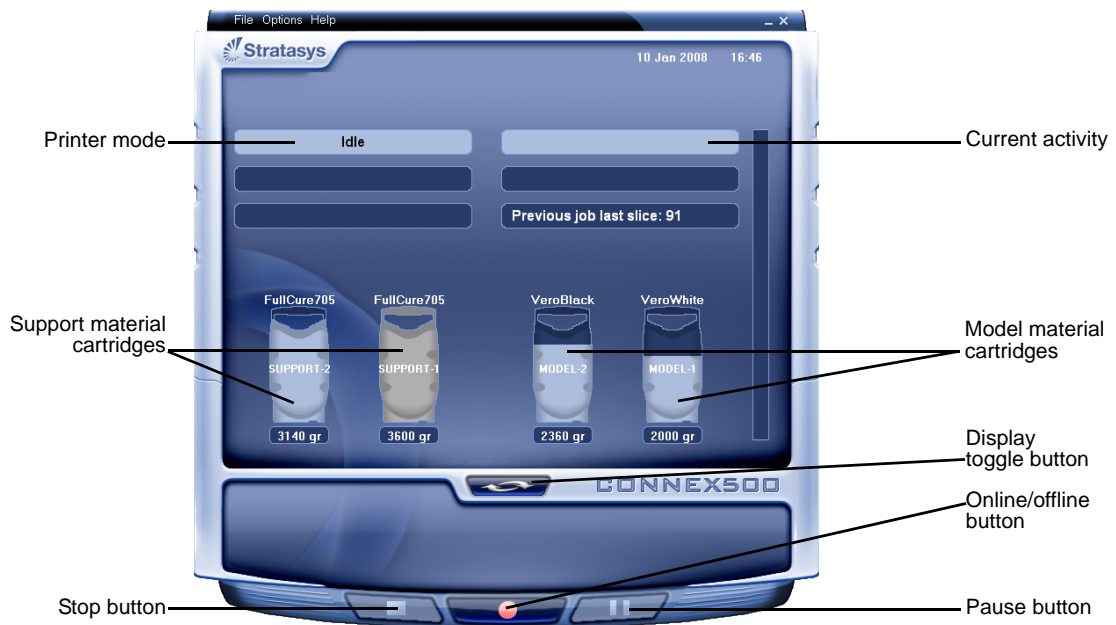

Figure 6-3: Connex500 interface
The Connex printer interface screen opens (see figure 6-3). All monitoring and controlling of the printer is done from this interface.
Connex printers use two cartridges of Model material and two cartridges of Support material, each weighing 3.6 kilograms when full. A graphical representation of the cartridges loaded and their current weight appears in the printer interface (see figure 6-3).
4. Check the printer interface to make sure that the new cartridge is detected and that its weight is displayed (see figure 6-3).
2. Make sure that there is sufficient Model and Support material loaded, as indicated in the printer interface (see figure 6-3). You may want to replace the cartridges of Model and Support material currently loaded in the printer to avoid the need for replacing them during printing.
1. If the printer is in offline mode, switch it to online mode by clicking the red button at the bottom of the printer interface (see figure 6-3 on page 3).